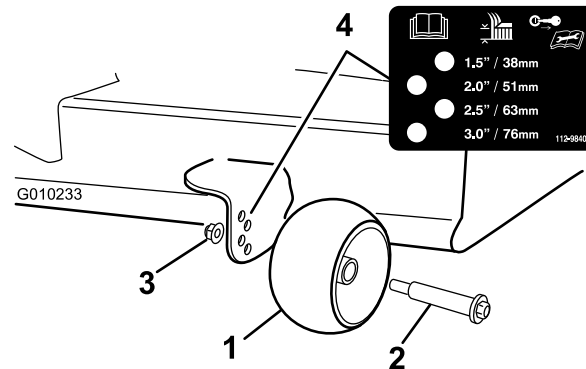

Figure 27
3. Adjust the anti-scalp rollers as shown in Figure 27 to match the closest height-of-cut position.